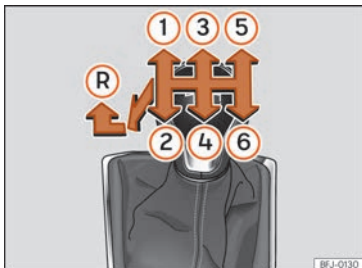

Fig. 168 Gear shift pattern of a 6-speed manual gearbox
The position of the gears is indicated on the gearbox lever »» **Fig. 168**.
- With the gearbox lever in neutral, push it downwards, move it to the left as far as it will go and then forwards to select reverse »» **Fig. 168 (R)**.